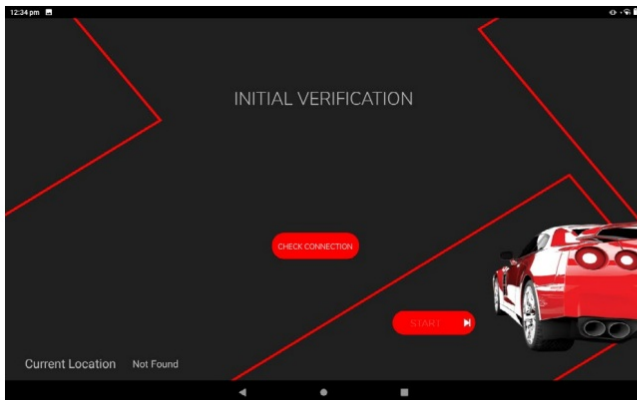
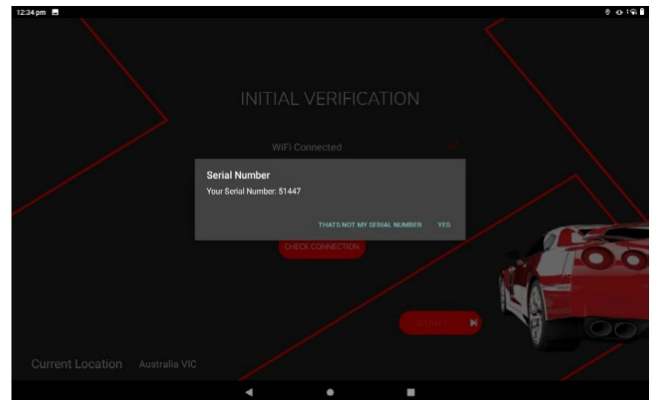

Figure 8
Figure 9
- **Step 6.** Press “Check Connection” to verify your serial number (Figure 8). If verified, press “Yes.” (Figure 9). If the serial number doesn’t match, please contact Autotest Products.